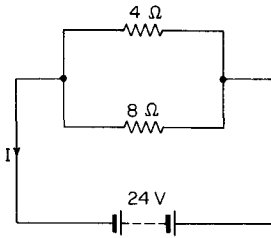

Fig. 2.103
29. In Fig. 2.103 find the current  $I$ .
30. Find the current flowing in each of the two resistors of Fig. 2.103.
31. What is the voltage-drop across each of the resistors in Fig. 2.103.